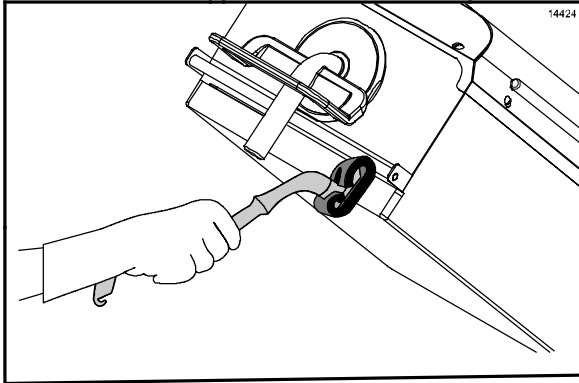

Figure 54
24. Using the Kay Grill Cleaning Pad Holder, scrub the front side of the platens from the right platen to the left platen. (See Figure 54.)